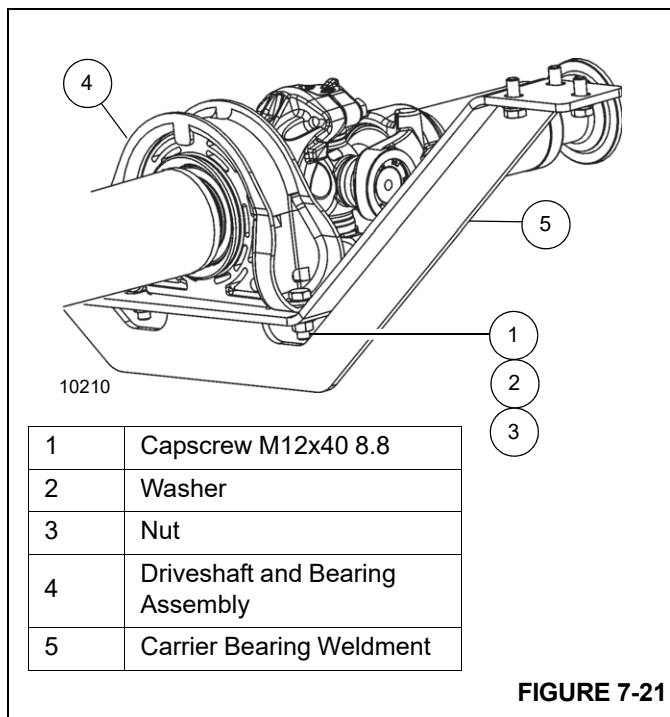

FIGURE 7-21
4. Remove capscrews (1, Figure 7-21), washers (2), nuts (3), and driveshaft and bearing assembly (4) from the carrier bearing weldment.
6. Remove capscrews (9), lockwashers (10), nuts (11), and driveshaft (3) from the transmission.
7. Remove capscrews (8) and slip driveshaft (4) from driveshaft and bearing assembly.
8. Remove capscrews (1, Figure 7-21), washers (2), nuts (3), and driveshaft and bearing assembly (4) from the carrier bearing weldment.
2. Install driveshaft (3) on transmission with lockwashers (10), capscrews (9), and nuts (11). Torque nuts (11) to 101.7 Nm to 128.8 Nm (75 to 95 ft-lb).
3. Install driveshaft (3) and bearing assembly (4, Figure 7-21) on rear carrier bearing weldment (5) with washers (2), capscrews (1), and nuts (3). Torque nuts to 66.2 Nm to 69.7 Nm (48.8 ft-lbs to 51.4 ft-lbs).
5. Install slip driveshaft (2) to transmission with capscrews (9), washers (10), and nuts (11). Torque nuts to 101.7 Nm to 128.8 Nm (75 to 95 ft-lb).
6. Install driveshaft (1) on front axle with lockwashers (6), capscrews (5), and nuts (7). Torque nuts (7) to 180.3 Nm to 219.6 Nm (133 to 162 ft-lbs).
7. Install driveshaft (1) and bearing assembly (4, Figure 7-21) on carrier bearing weldment (5) with washers (2), capscrews (1), and nuts (3). Torque nuts to 66.2 Nm to 69.7 Nm (48.8 ft-lbs to 51.4 ft-lbs).